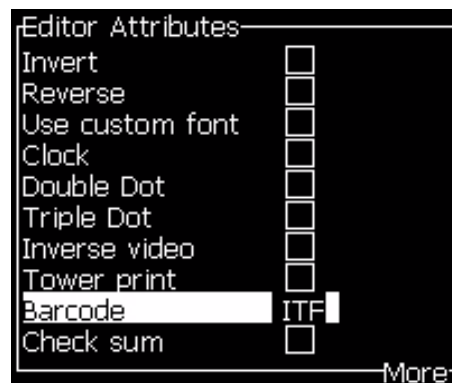

Figure 5-41: Select the Type of Barcode
- 2 Press the *F3* key or *ALT+E* and select *In-line Attributes* to open the *Editor Attributes* screen (see Figure 5-41 on page 5-51).